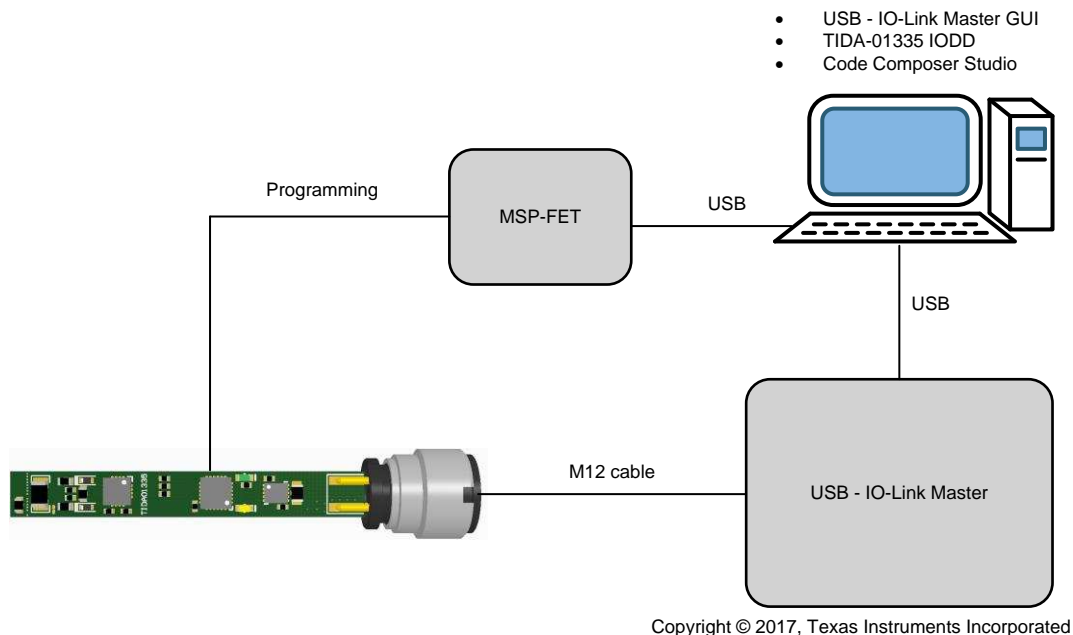
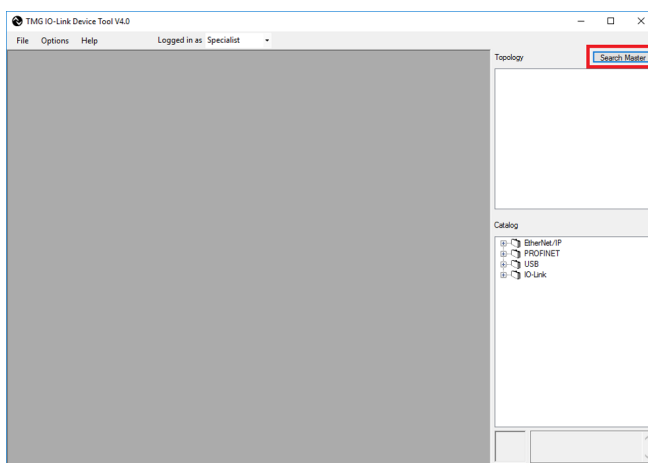
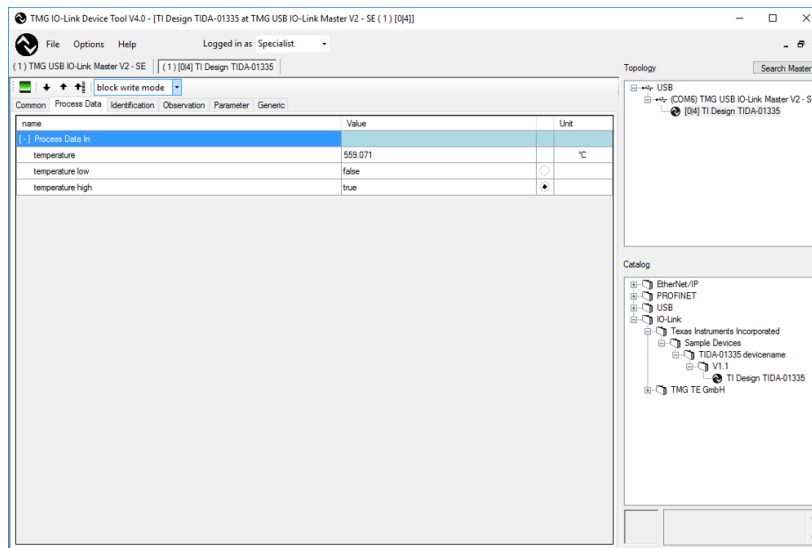

图 11. Test Setup of Reference Design
图 12. IO-Link Master GUI 1
图 18. IO-Link Master GUI 7
图 11 shows how to connect the reference design. The MSP-FET is only required for programming or debugging the MSP430. The M12 cable connects the reference design with the IO-Link master, which is also connected through USB to the PC. The PC has the IO-Link master software installed. For details on the installation of the GUI, see the user manual of the IO-Link master software.
图 12 through 图 18 show the different steps to configure the IO-Link master GUI. Note that these steps are only valid for the IO-Link master used here. When the reference design is connected as per 图 11, launch the GUI and follow these steps:
1. Click the "Search Master" button (see 图 12).
7. By clicking on the "Process Data" tab, the information of the reference design are shown. For this design, the temperature of the RTD sensor is shown, as well as the threshold of the low and high temperature limits (see 图 18).